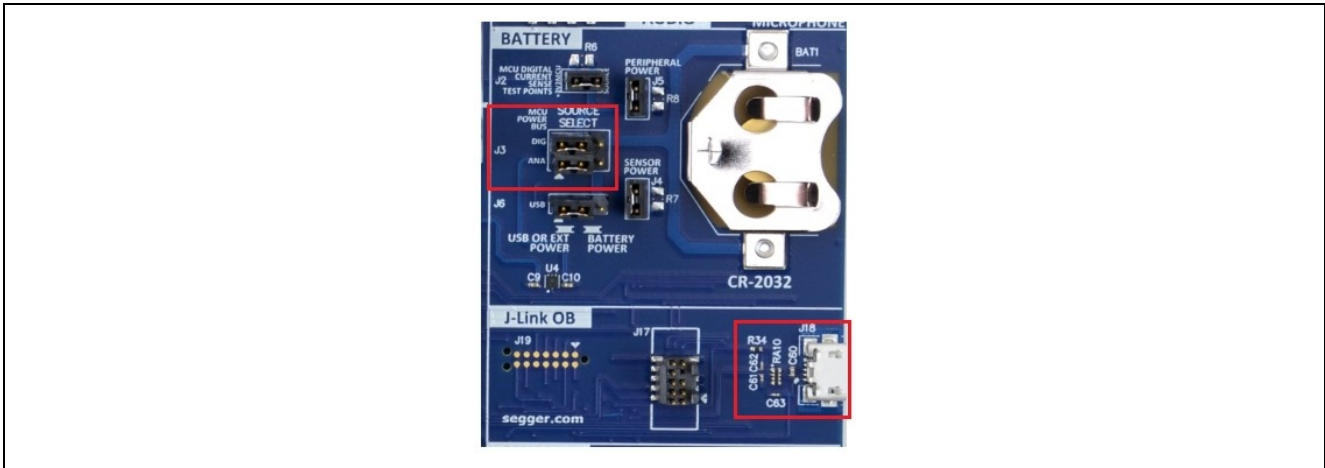

Figure 14. Power setup (top) and J-Link OB connection (bottom)
1. Verify that the J3 header near the battery is configured with two jumpers to make connections 1-3 and 2-4, as shown in Figure 14.
2. Connect the JLink-OB on J18 of the DK-S124 MCU to the PC using a micro USB cable (Figure 14).